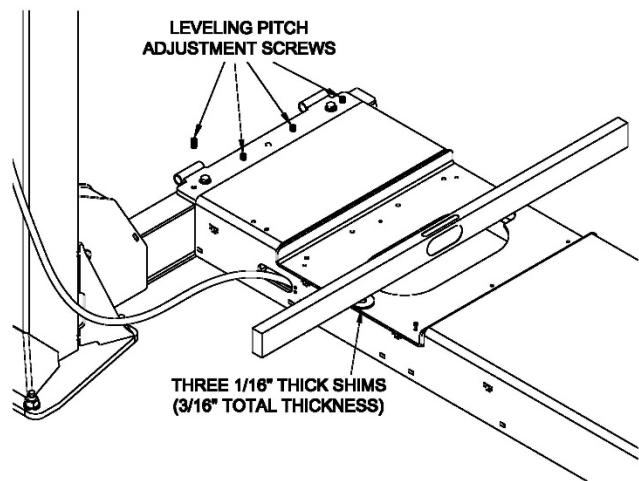

Fig 20 – Runway Pitch Adjustment
- 57) Place the level in a front turn plate cutout, **Fig 20**. Place three 1/16" thick column shims (3/16" total thickness) under the level at the outside edge of the cutout and adjust the runway pitch leveling screws until the bubble is centered between the lines. Make sure all leveling screws are touching the crossbeam. Torque runway bolts to 60-80 foot pounds and recheck the level. Repeat for other side. (The rear of the runway usually does not require pitch adjustment as this is a closed rear crossbeam.)